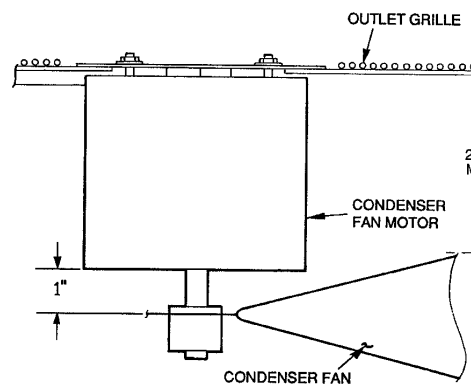

FIGURE 9 – Condenser Fan Adjustment
4. Adjust fan height as shown in **Figure 9**.
Refer to Troubleshooting Tables and **Figure 9** for additional information.